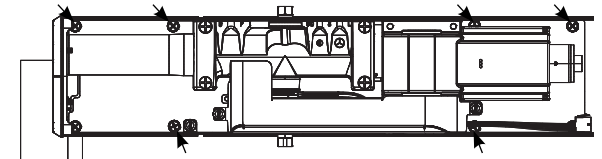

Figure 11 Remaining LAP Mounting Screws
4. Using six (6) 1/4-20 x 1/2" Phillips head screws, secure LAP to backplate. (Figure 11)